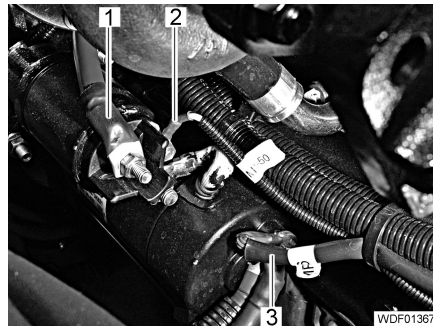

Fig. 100 Electrical connections
- Connect the electrical cables (Fig. 100,1 to 3) to the starter.